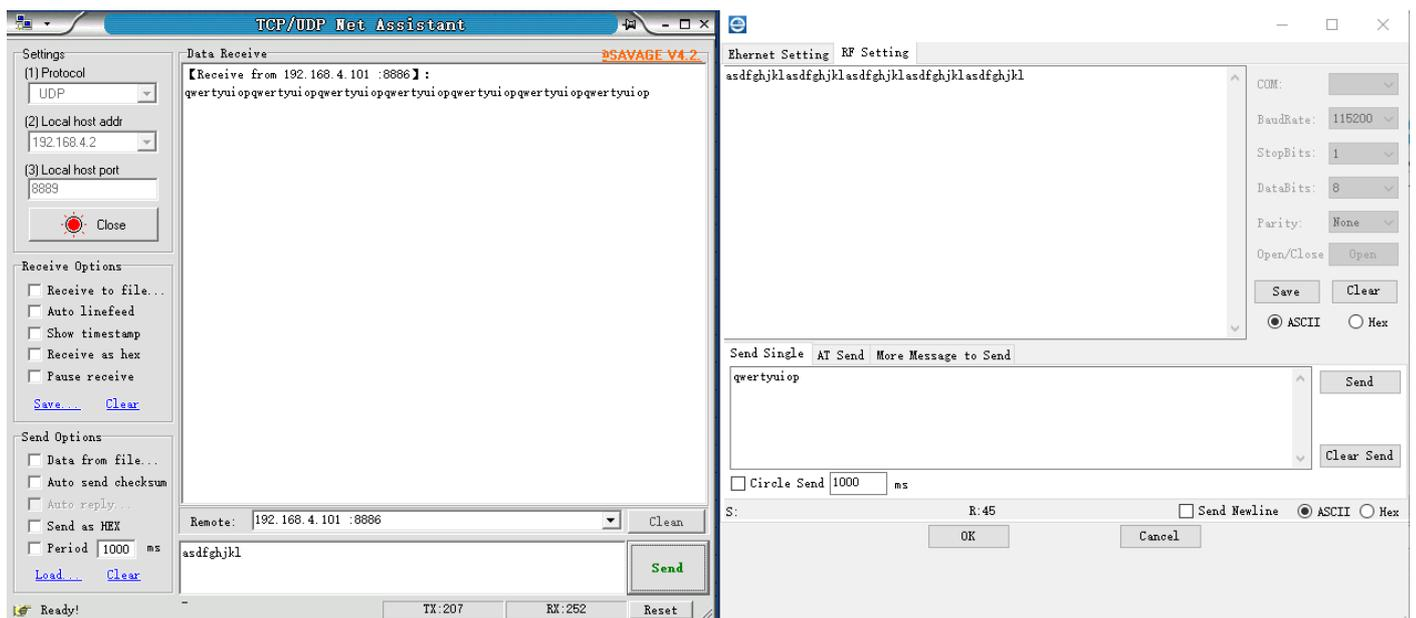

Figure 21 Data transparent transmission
(2) Open the network test tool as shown in Figure 21, select UDP, select the IP (the destination IP address of the UDP client), write the port (the target port of the UDP client) -> open, using the "Ebyte network configuration tool" "to monitor the transmitted data.